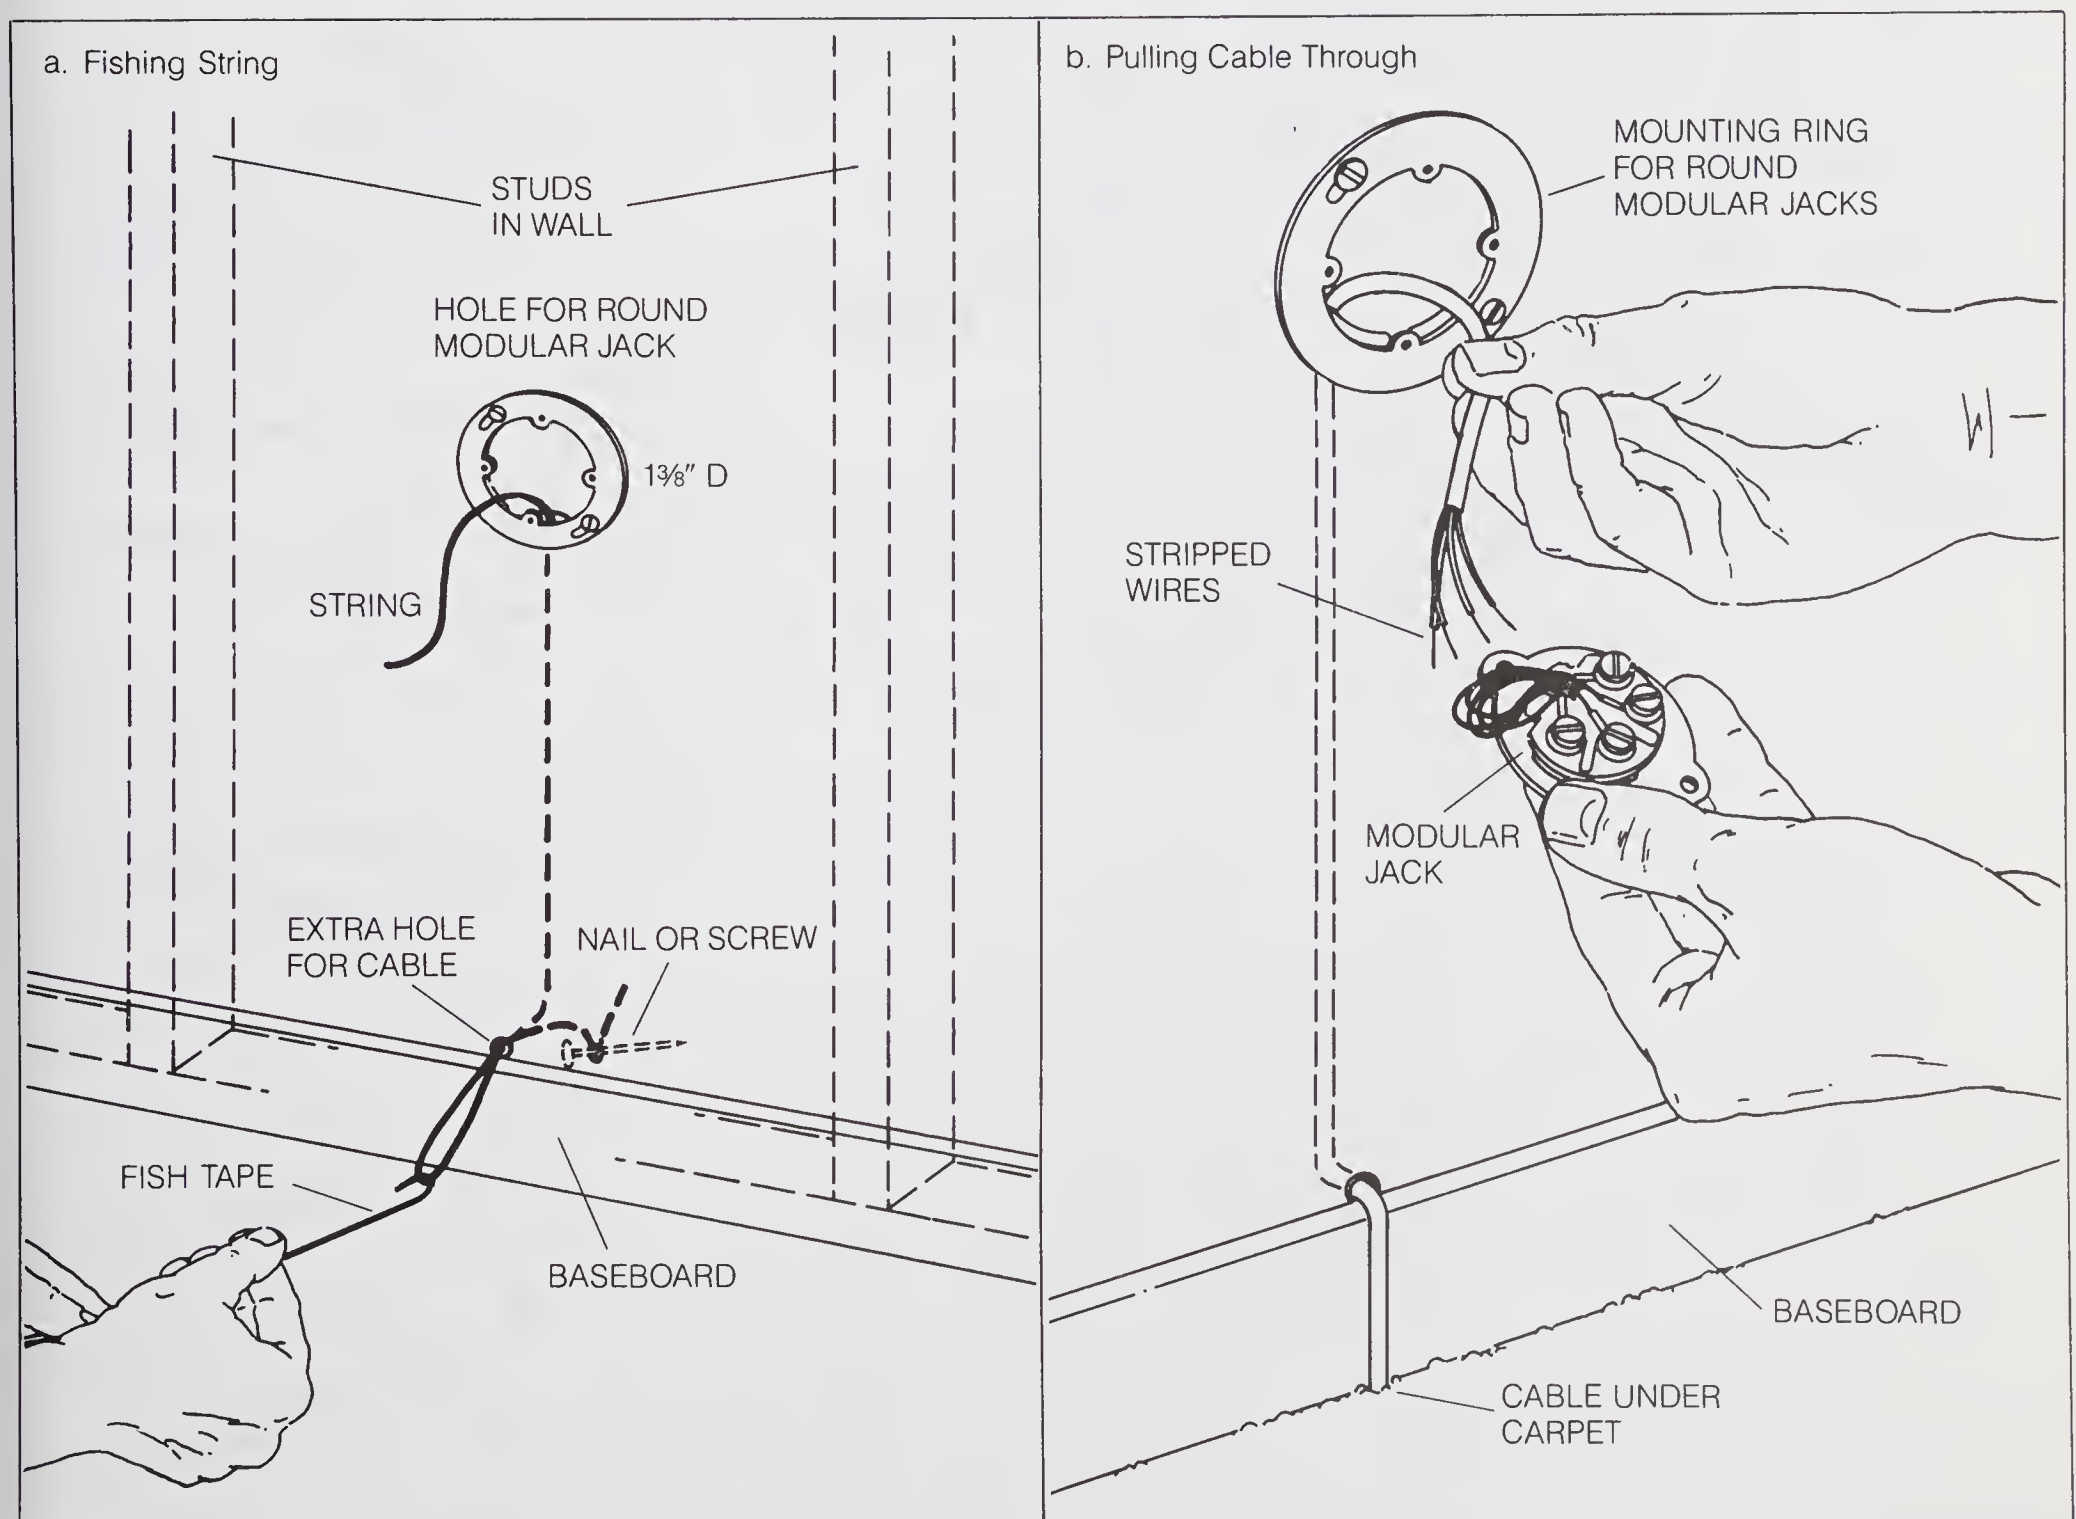

Figure 5-6.
1. Locate the position of the modular jack. The one shown in *Figure 5-6* is for a round modular jack. Avoid studs in the wall; locate the position of the jack between them. Cut a $1\frac{3}{8}$ " hole in the drywall according to the mounting instructions with the round modular jack.